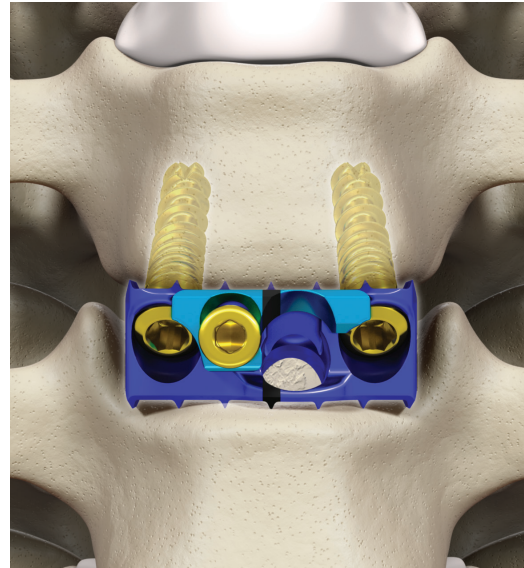

Figure 71
- Repeat on the contralateral side. When both lateral screws have been placed, remove the ATO inserter guide by sliding the inserter sleeve toward the modular impaction cap handle and pulling the inserter away from the plate using a gentle side-to-side motion (Figure 71).